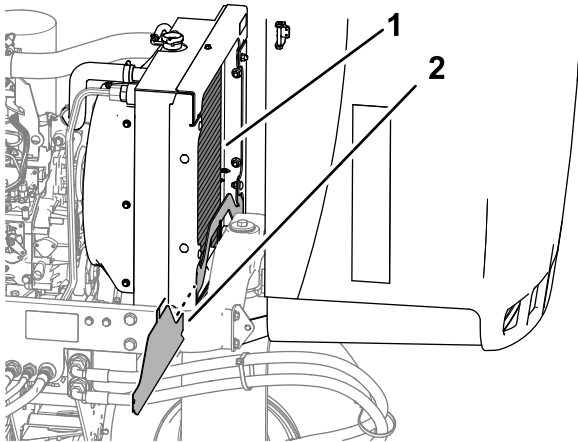

Figure 78
- Remove the lower radiator shield (Figure 78).
- Clean both sides of the radiator area thoroughly with water or compressed air (Figure 78).